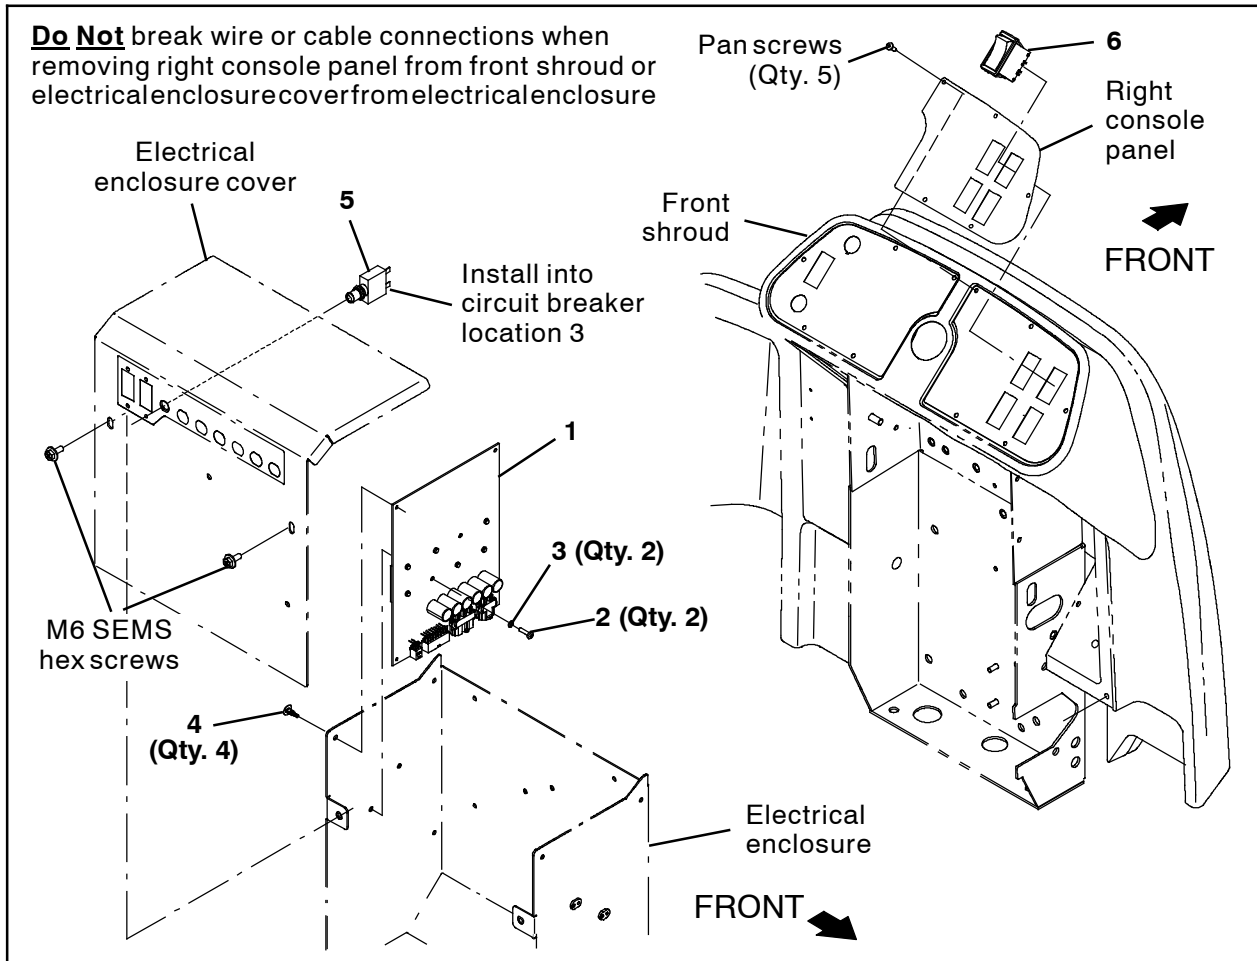
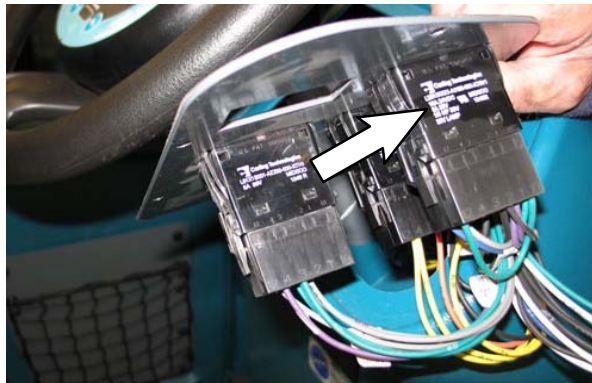
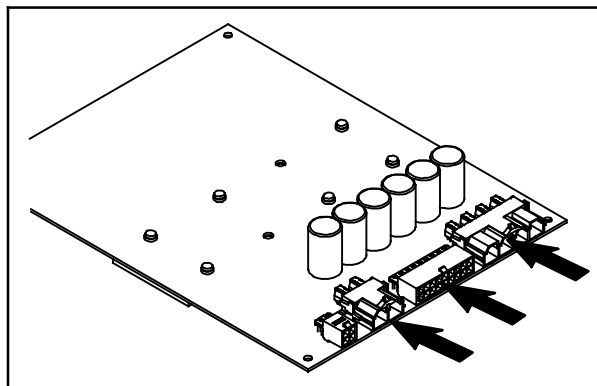
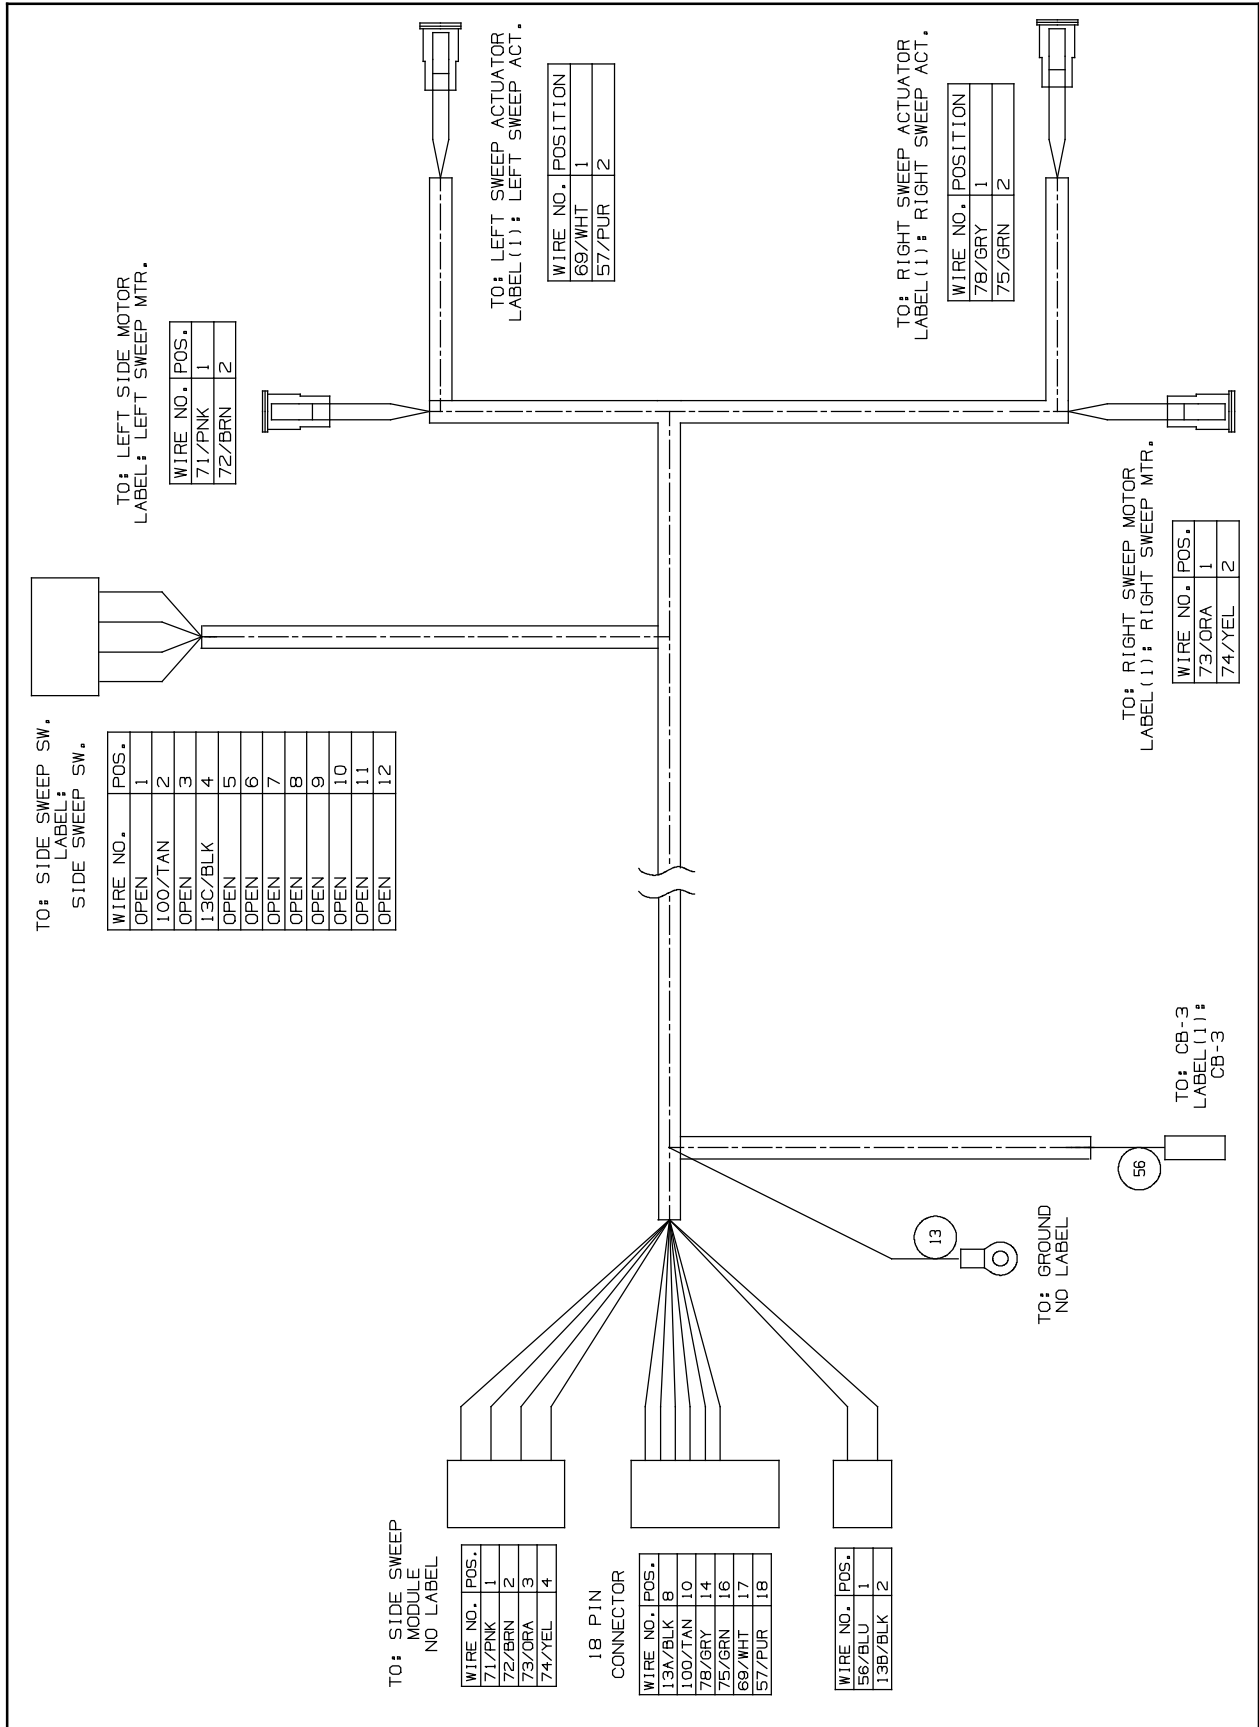

FIG. 6 - Sweeping Side Brush Electrical Group
FIG. 7
FIG. 9
FIG. 11 - Sweeping Side Brush Wire Harness Group - Must Be Factory Installed
11. Remove the pan screws holding the control panel to the front shroud and set the hardware aside. (Fig. 6)
12. Carefully pull the control panel from the front shroud. Do not break any wire connections when pulling the panel from the shroud. (Fig. 6)
13. Remove the hole plug from the control panel. Discard the hole plug. (Fig. 6)
14. Orient the switch (14) so the text on the switch is to the right side of the machine (like the other switches) and insert the switch into the control panel.(Fig. 6 / Fig. 7)
15. Connect the side sweep harness to the rocker switch (12). (Fig. 6 / Fig. 11)
16. Reinstall the control panel onto the front shroud. (Fig. 6)
17. Remove both SEMS M6 hex screws securing the electrical enclosure cover to the electrical enclosure. Set the SEMS M6 hex screws aside. (Fig. 6)
19. Install the four standoffs onto the electrical enclosure. (Fig. 6)
20. Install the circuit board onto the four standoffs installed into the electrical enclosure in the previous step. (Fig. 6)
21. Use two M4 pan screws and two nylon flat washers to secure the circuit board onto the electrical enclosure. **Do Not** over tighten the M4 pan screws. Over tightening the M4 pan screws could damage circuit board. (Fig. 6)
22. Connect the side sweep harness to the circuit board (12). (Fig. 9 / Fig. 11)
23. Connect the side sweep harness ground lead to the machine ground located inside the electrical enclosure. (Fig. 11)
25. Reinstall the electrical enclosure cover onto the electrical enclosure. (Fig. 6)